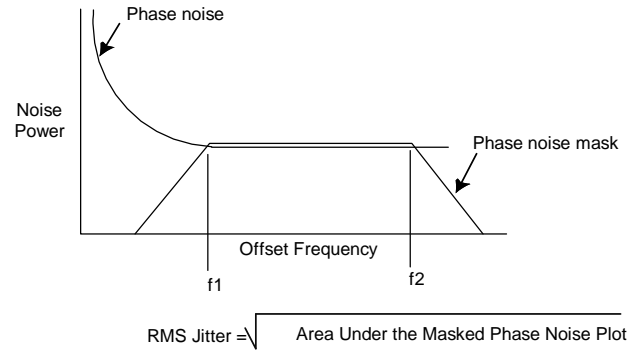

Figure 7. Output Duty Cycle
7. Refer to Figure 7 on page 8.